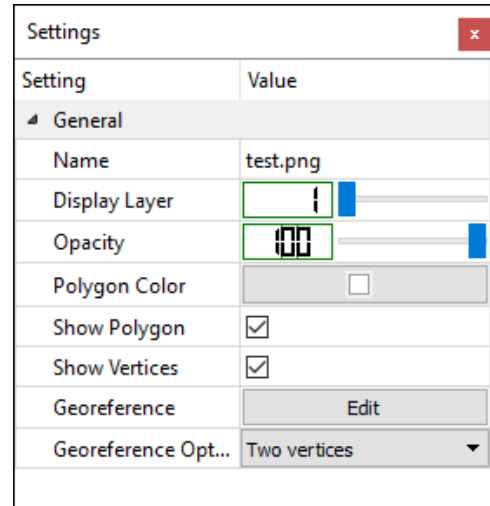

Figure 6. The Settings window for Raster Map
3. To customize the display of a raster map, click on its name on the TOC, and use its Settings window (Figure 6) as described below.